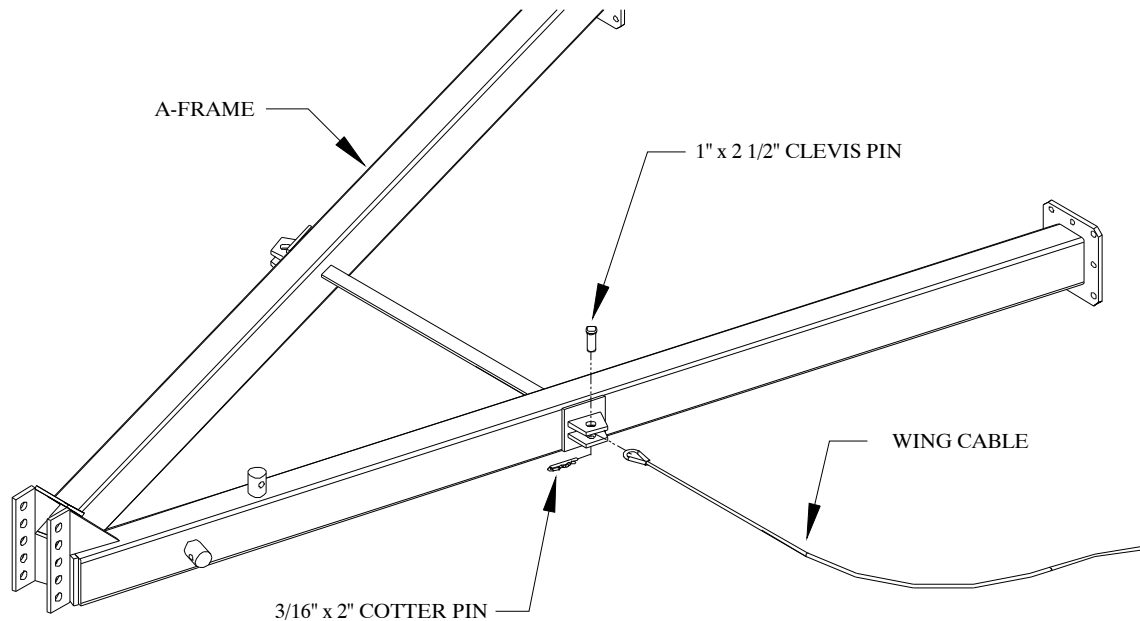

Figure 20
2. Pin one end of a wing cable to the tab on the side of the A-Frame as shown in Figure 20. Use one 1" x 2 1/2" clevis pin and 3/16" x 2" cotter pin.